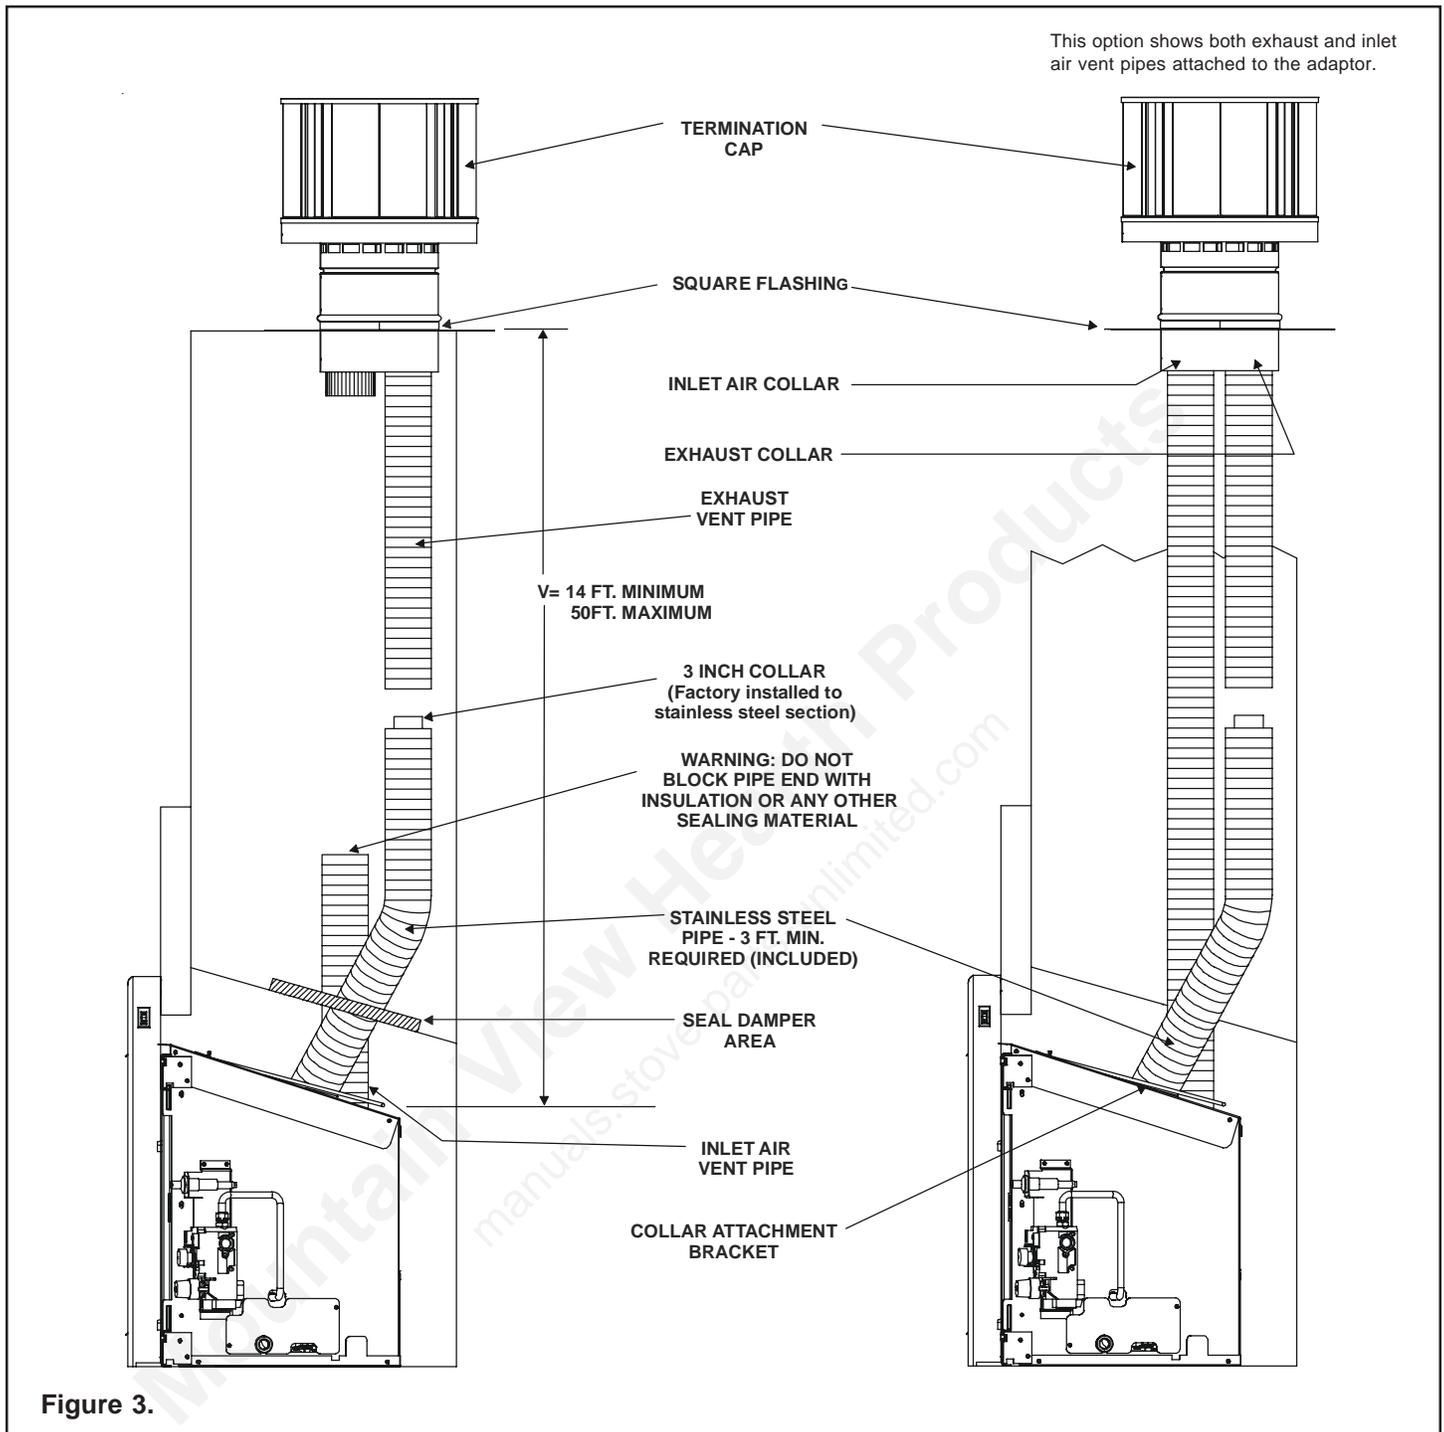

Figure 3.
Fireplace ADI-ZC-FB is approved with vent termination kits LINK-DV-30, LINK-DV-30B, LINK-DV4-30 and LINK-DV4-30B as shown in Figures 3 & 4. Approved vent system terminations are labeled for identification. 3-inch diameter listed flexible aluminum and stainless steel gas vent is used for both the incoming combustion air and exhaust vent pipes. NO OTHER VENTING SYSTEMS OR COMPONENTS MAY BE USED. Detailed installation instructions are included with each vent termination kit and should be used in conjunction with this manual.
The vent pipes **MUST** be connected to the proper collars on the unit **AND** the exhaust vent pipe **MUST** be connected to the termination cap or the unit will not operate. The combustion air vent pipe CAN be connected to the termination cap (LINK -DV30, LINK -DV30B) or it can terminate inside the chimney (LINK-DV4-30, LINK-DV4-30B). The bottom opening of the chimney must be sealed around the vent pipes if the combustion air vent is NOT connected to the termination cap. See Figure 3.
**NOTE:** The minimum vertical rise (exhaust vent) is 14 feet and the maximum vertical rise is 50 feet. These dimensions are measured from the starting collars of the unit to the end of the last section of vent pipe. See dimension V in Figure 3.
Attach the flashing and termination cap to the top of the flexible vent pipe and set the cap in place. See Figures 3 and 4.
**WHEN USING THE LINK-DV4-30 VENT SYSTEM, IT IS REQUIRED TO SEAL AROUND THE FLEXIBLE VENT PIPES IN THE DAMPER AREA. SEE FIGURE 3. USE FIBERGLASS INSULATION OR OTHER SUITABLE NON-COMBUSTIBLE MATERIAL.**